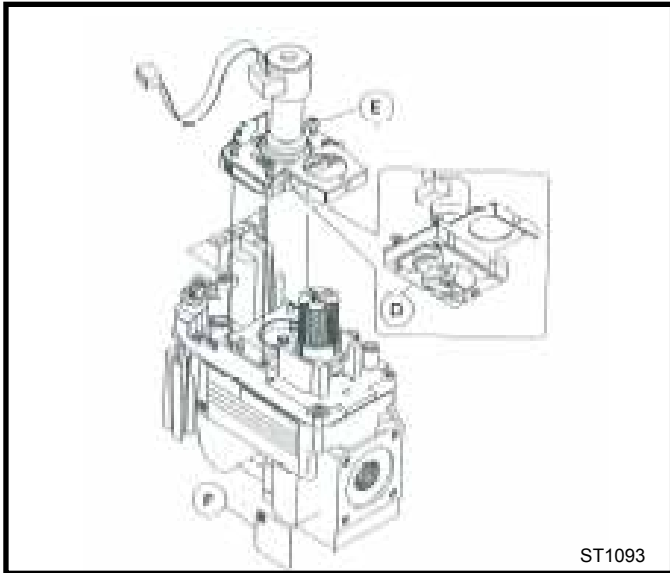

Fig. 77 Remove mounting screws from old pressure regulator assembly. Replace step motor with new conversion step motor.
1. Using the TORX T20 bit remove and discard the three (3) pressure regulator mounting screws from the old pressure regulator assembly. (Fig. 77)
2. Insure the rubber gasket (D) is properly positioned and install the new step motor (E) pressure regulator assembly to the valve using the new screws supplied with the kit. Tighten the screws securely. (Ref. torque = 25 in/lb) (Fig. 77)
3. Install the identification label (F) supplied with the stepper motor to the valve body where it can easily be seen. (Fig. 77)